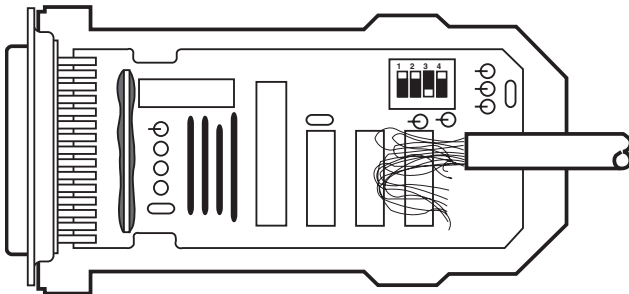
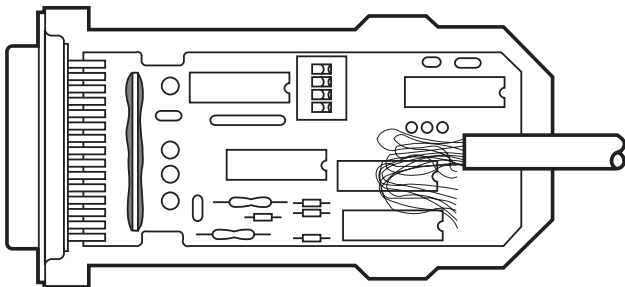

Fig. 3-1. Board layout of current Converter (DIP switch shown).
Fig. 3-2. Board layout of earlier Converter (DIP switch shown).
2. Select the character length by setting DIP switch (Switch 1) positions 1 and 2 according to Table A or B on the next page. (Table A will apply to the current version of the converter, shown in Fig. 3-1 below. If you have the earlier version, shown in Fig. 3-2 on the next page, you will have to use the settings in Table B.)
- Set DIP switch position 3 (see Fig. 3-1) to select the percentage for shortening the stop bit (see Table C on the next page). For an explanation of stop-bit shortening, see **Chapter 4**.